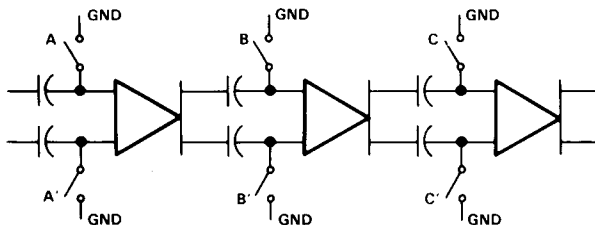

FIGURE 1
1. The IN+ and IN- inputs are internally shorted together in order that the comparator input is zero. A coarse comparator offset calibration is performed by storing the offset voltages of the interconnecting comparator stages on the coupling capacitors that connect the interconnecting stages. Refer to Figure 1. The storage of offset voltages is accomplished by closing all switches and then opening switches A and A', then switches B and B', and then C and C'. This process continues until all interconnecting stages of the comparator are calibrated. After this action, some of the comparator offset still remains uncalibrated.